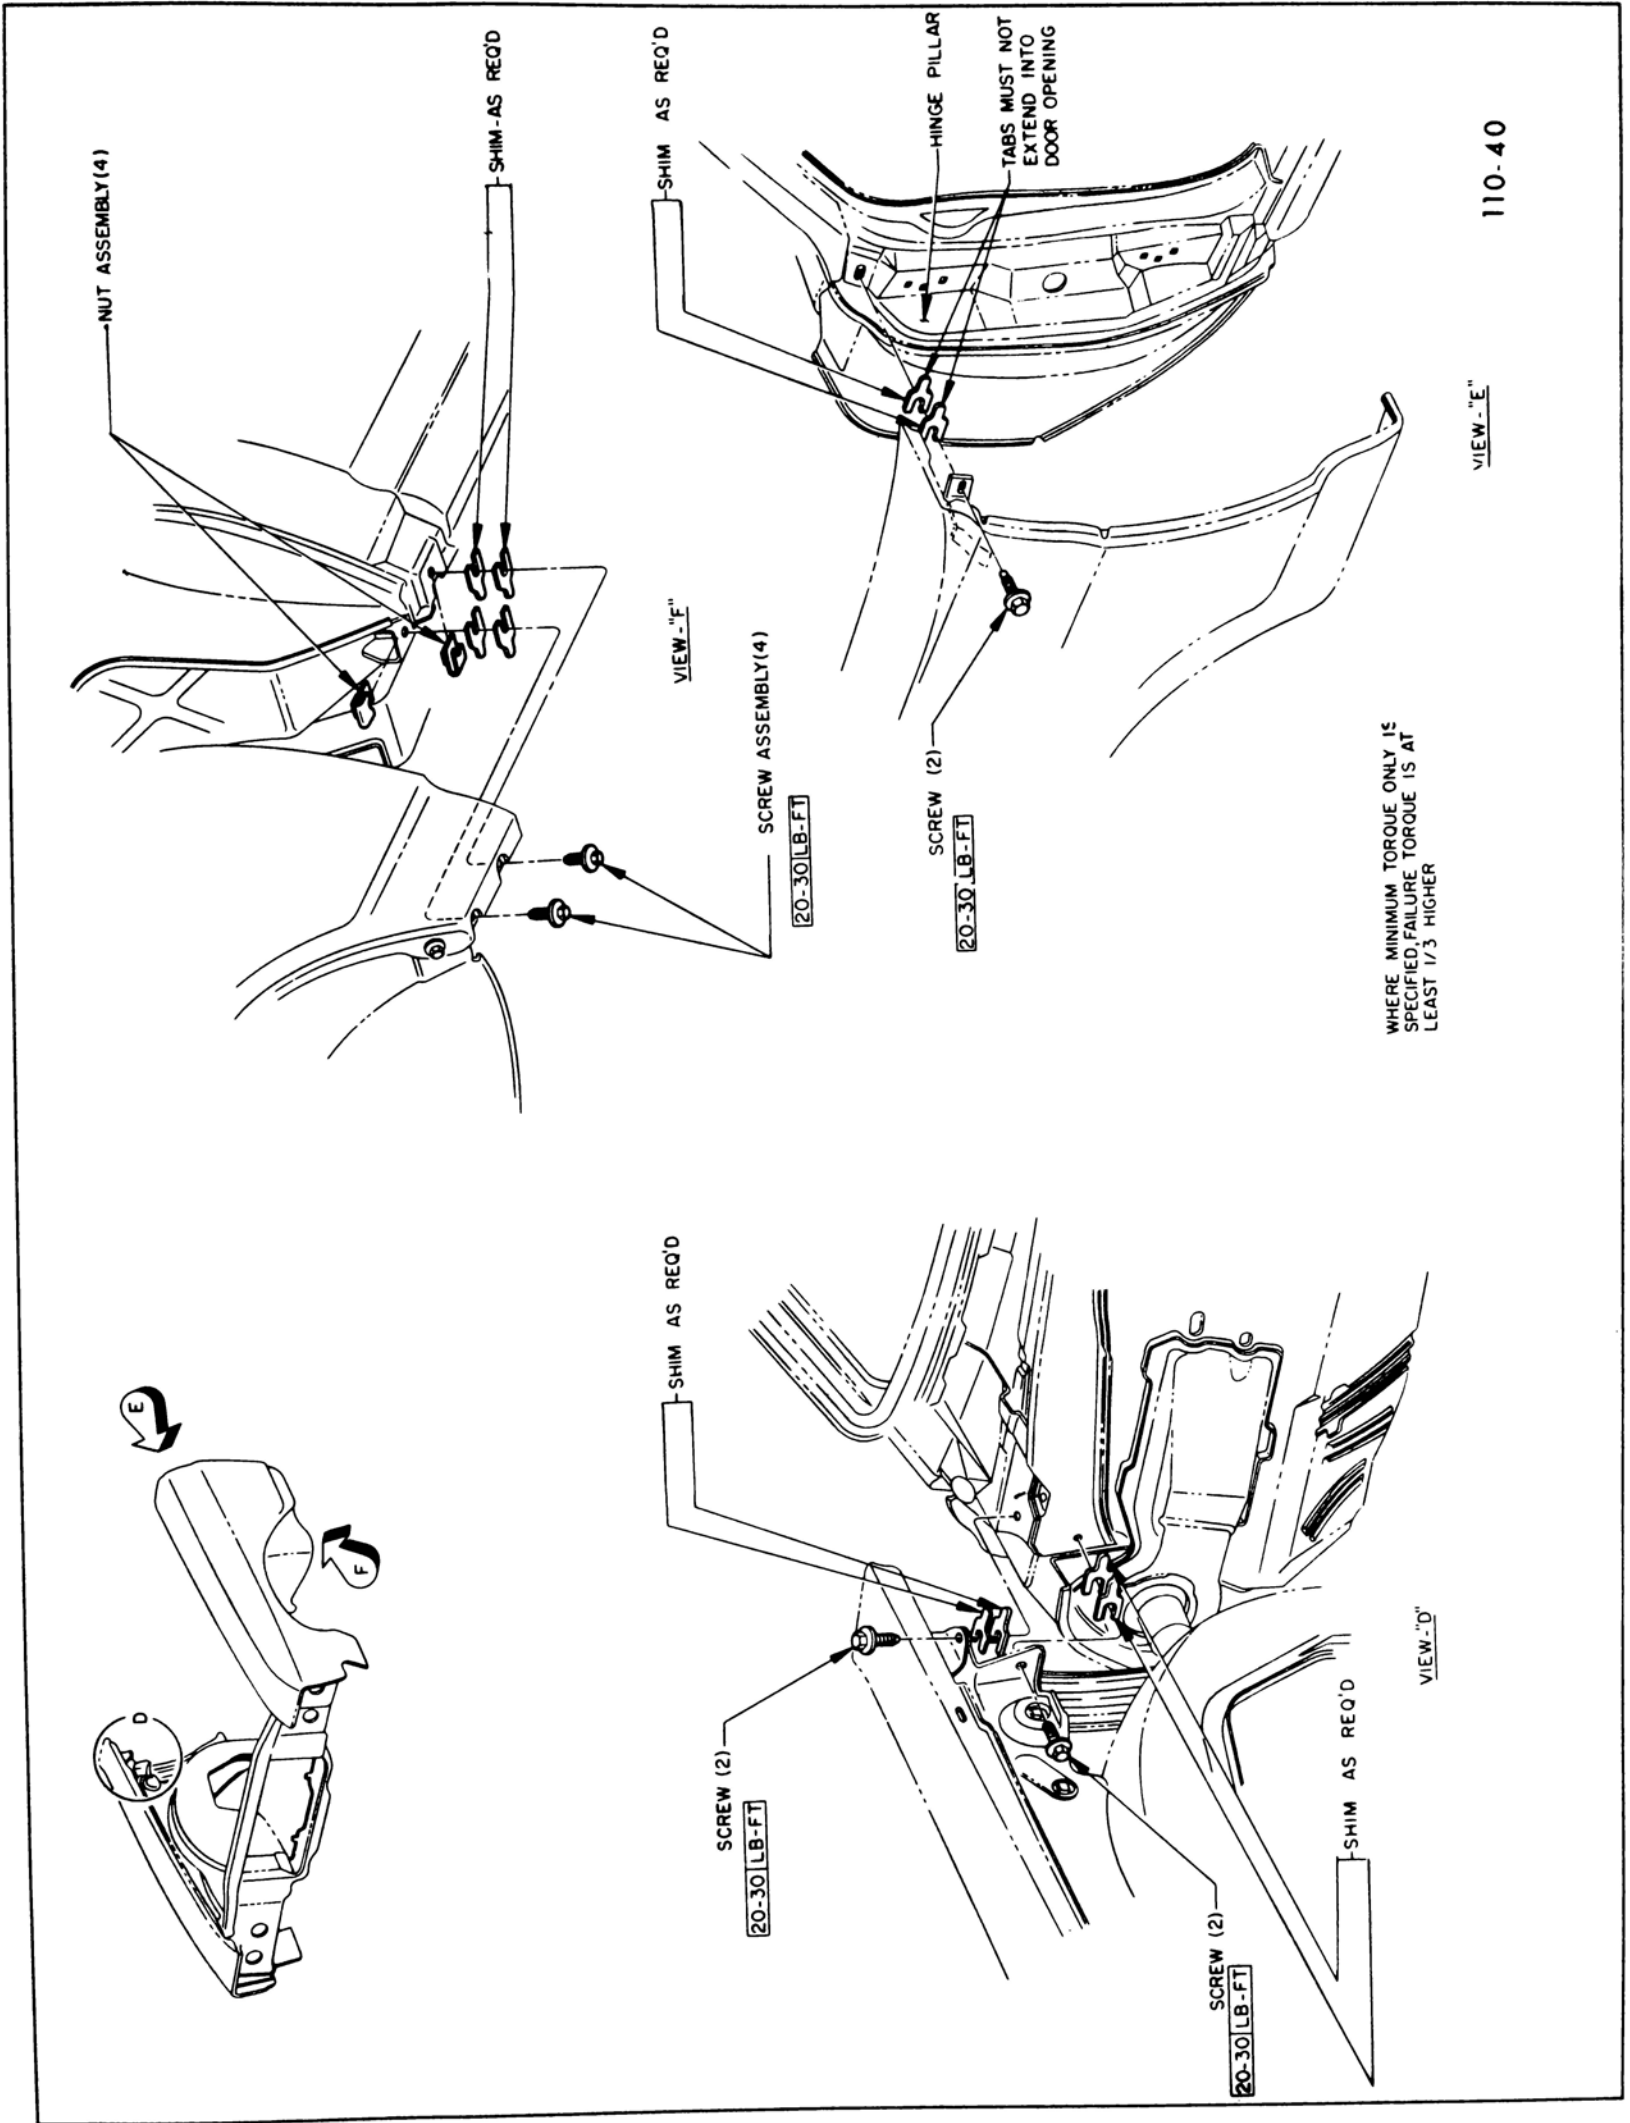

Figure 110-5 43-44000 Fender to Cowl Attachment Points
8. Remove two bolts securing upper rear portion of fender to cowl. See Figure 110-5 (view D).
10. Remove two bolts securing lower rear edge of fender to rocker panel. See Figure 110-5 (view F).
11. Remove one bolt securing upper rear portion of fender to hinge pillar. See Figure 110-5 (view E).